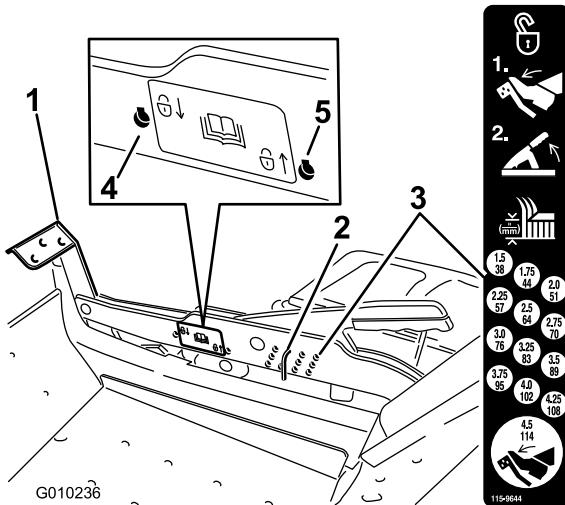

Figure 25
1. Push on the deck lift pedal with your foot and raise the mower deck to the transport position (also the 4-1/2 inch (114 mm) cutting height position) (Figure 25).
2. Remove the pin from the height-of-cut bracket (Figure 25).
3. Select a hole on the lock decal and insert the pin (Figure 25).
2. To adjust, remove the pin from the height-of-cut bracket (Figure 25).
3. Select a hole in the height-of-cut system corresponding to the height-of-cut desired and, insert the pin (Figure 25).